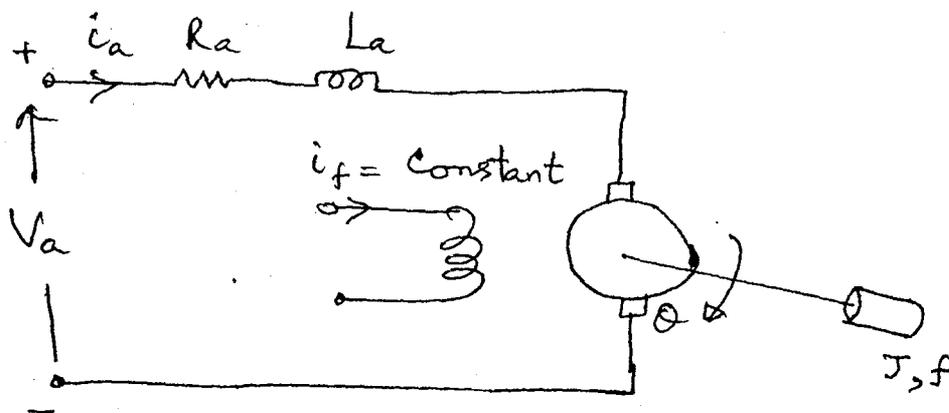

Fig. Q. 15 (a)
15. (a) Obtain the state model of the electro mechanical system shown in Fig. Q. 15 (a)